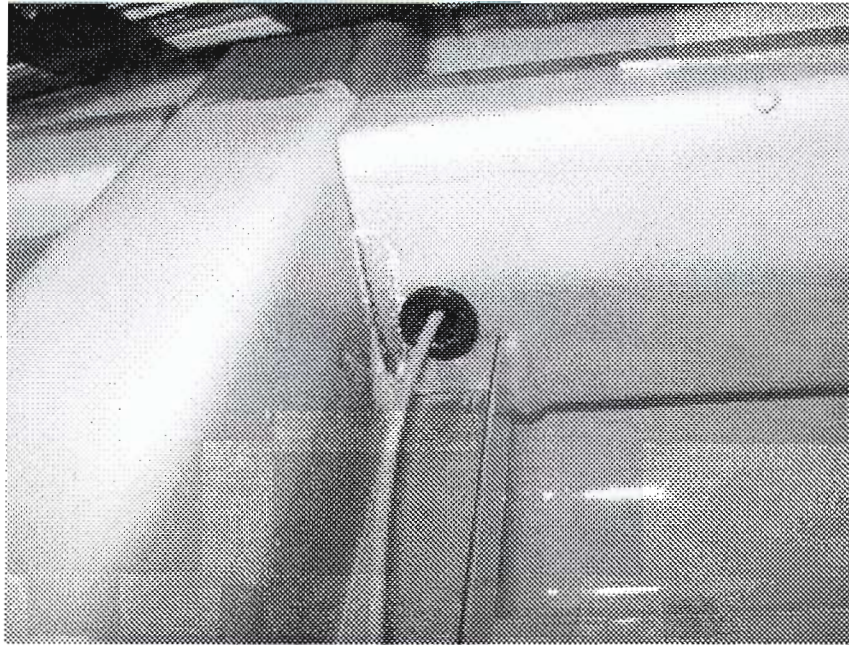

FIGURE 5
11. Route push-out switch wire from harness, down through the grommet at the new location. If the new location for the push-out moved toward the rear of the unit, use a Butt Splice, #TBB 22009377 and 18 GA. Wire, #TBB 163818 for the added length and route down through grommet. **Figure 5**